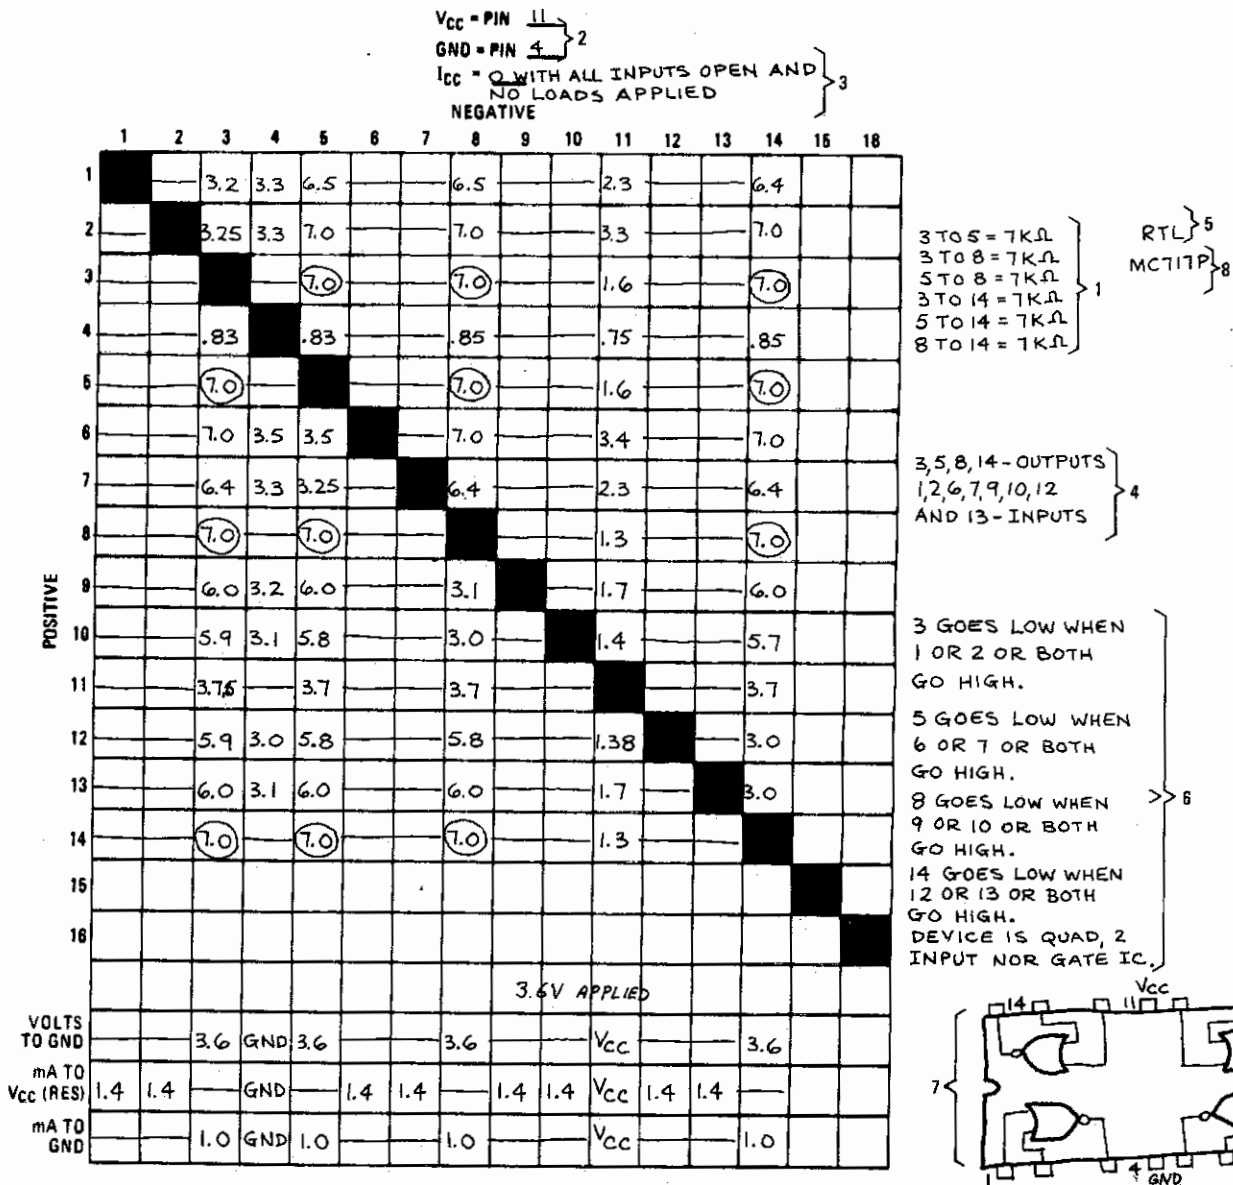

FIG. 2—COMPLETED SIGNATURE CHART for the unknown IC. It turned out to be an quad, 2-input NOR gate.
For example: In Fig. 2 there are 12 circled boxes, 6 above the diagonal and 6 below. The circled number in Row 5, Column 3 has its mirror image on the opposite side of the diagonal in Row 3, Column 5. The resistance is 7K ohms in both directions and it is therefore a ter-
minial-to-terminal resistance. That is noted to the right of the chart (Fig. 2), along with the other resistance values and identified as step one. The remaining terminal pairs show grossly different resistance measurements in opposite directions, indicating the presence of one or possibly several semiconductor junctions in the path.
Scan across Row 4 for the lowest uncircled reading—in this case it is the 750-ohms reading in Column 11. That tells us that pin 11 is the  $V_{CC}$  terminal of the IC. Record those numbers in the place provided at the right of the chart—Step 2, Fig. 2.
A voltage less than 0.2, but greater than zero, usually indicates logic outputs in the low state. None of those appear in Fig. 2.
Now is the time to remove and reapply power to the IC. Do that several times, each time comparing the voltage at each suspected output to its original recorded value. Often a flip-flop will reveal itself by changing the state of one or more of its outputs. A simple gate will never change state in response to that little trick. The IC in Fig. 2 did not change state so I assumed it was not a flip-flop.
Voltages from about 1.8 down to 0.8 usually indicate TTL or DTL inputs. The fact that there are no such voltages in the "volts-to-ground" row of Fig. 2 was certainly a surprise to me, but it did lead to a pretty solid conclusion: If the IC is not defective, then it is not TTL or DTL.
Input currents for RTL, DTL and TTL fall between 0.8 mA and 2.0 mA. In Fig. 2 all the probable inputs draw 1.4 mA referenced to  $V_{CC}$  and nothing referenced to ground. That verifies that they are inputs and shows they are active (draw current) when the input is pulled high. RTL is active-high. DTL and TTL are active-low. Since their appear to be twice as many inputs as outputs, the chart suggests that our IC is a quad gate of some sort. It is reasonable to conclude that pins 1, 2, 6, 7, 9, 10, 12 and 13 are inputs.
**Step 5:** The symmetrical pattern of resistances in the signature and the strong evidence for four independent outputs with logic-level voltages pretty much rules out any linear IC. Resistive pull-ups could be DTL, but DTL inputs are active-low and our IC is active-high. After reviewing all the evidence I felt there was absolutely no doubt that this device was RTL. That conclusion was recorded in Fig. 2.
The relationships between the inputs and outputs and the conclusion as to the type of device I was dealing with are listed in Fig. 2 as step 6.